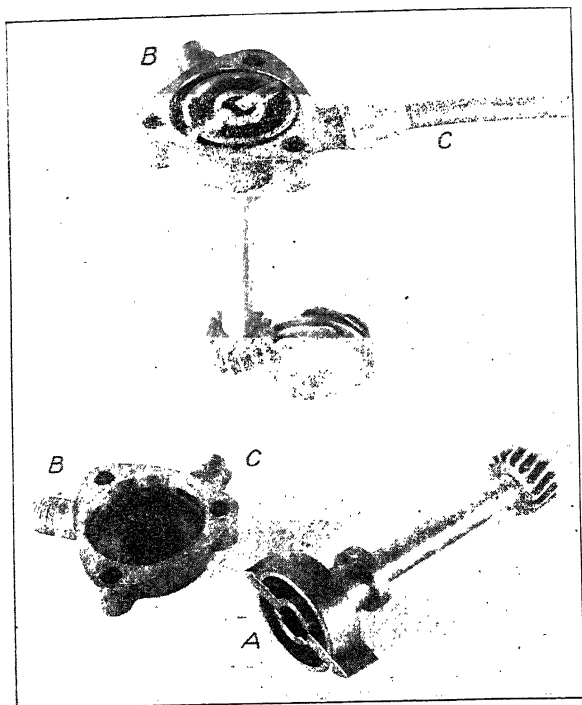

Fig. 22. Disassembled and Assembled View of Vane-Type Pump for Automotive Application
**Vane-Type Pump.** The vane-type pump, Fig. 22, operates on a rather simple principle. The large gear shown is on the crank shaft or on the cam shaft of the engine. As it turns, it